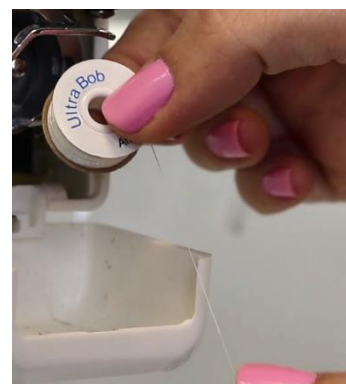

Figure 31
4. Bobbin goes into the bobbin case with the thread going clockwise (Fig. 31). Insert into the case.